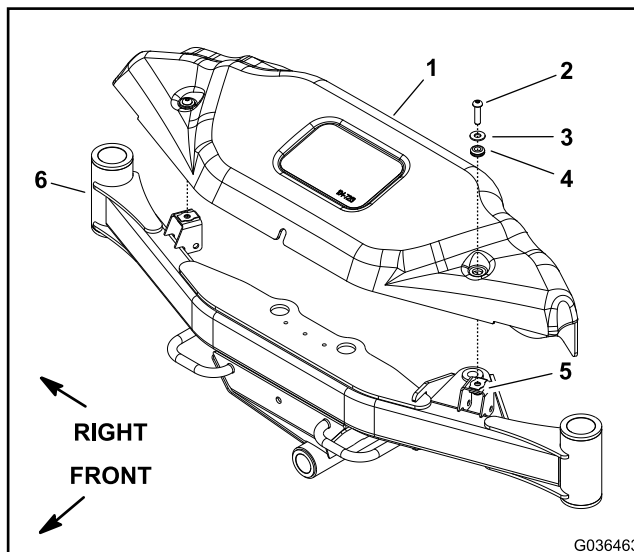

Figure 256
2. Remove the front cover from the front axle to get access to the front steering components (Figure 256).
- D. Install the front cover to the front axle (Figure 256).